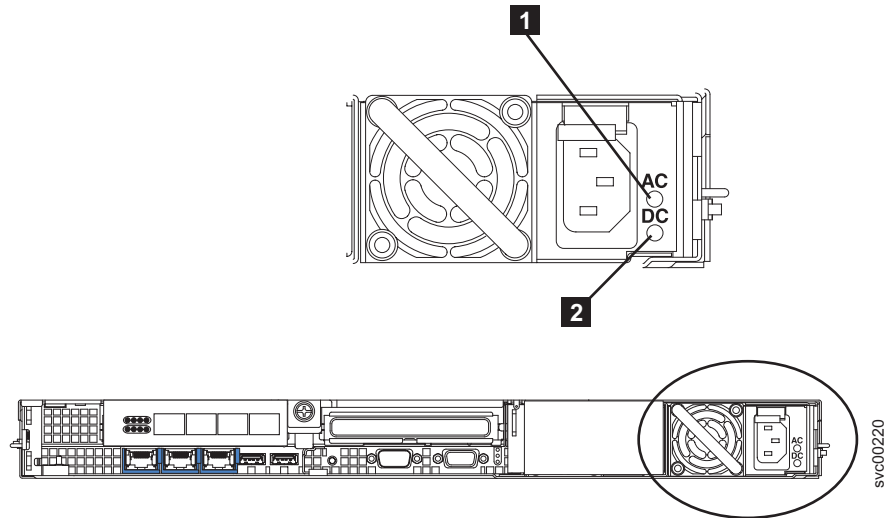

Figure 163. SAN Volume Controller 2145-8G4 ac and dc LEDs
4. Make sure that the ac power LED **1** and the dc power LED **2** (shown in Figure 163 on page 179) on the power supply are lit, indicating that the power supply is operating correctly. The two green LEDs are next to the power-cord connector.